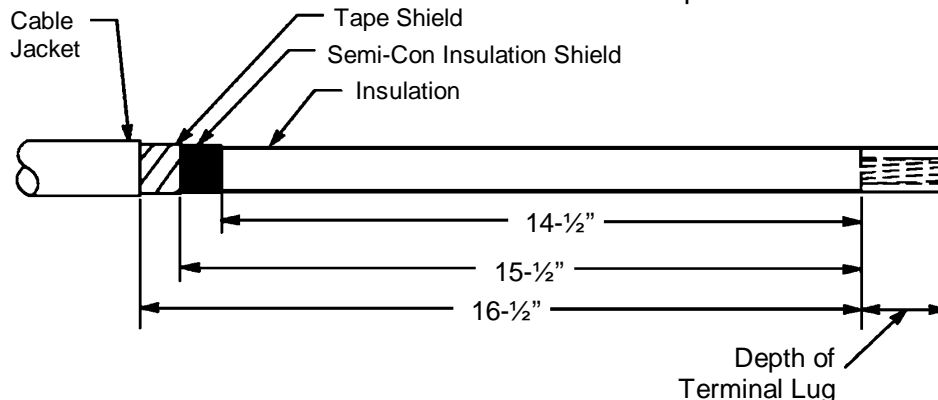

Figure 1
2. Remove cable jacket, tape shield, and semi-con layer as dimensioned (**Figure 1**).